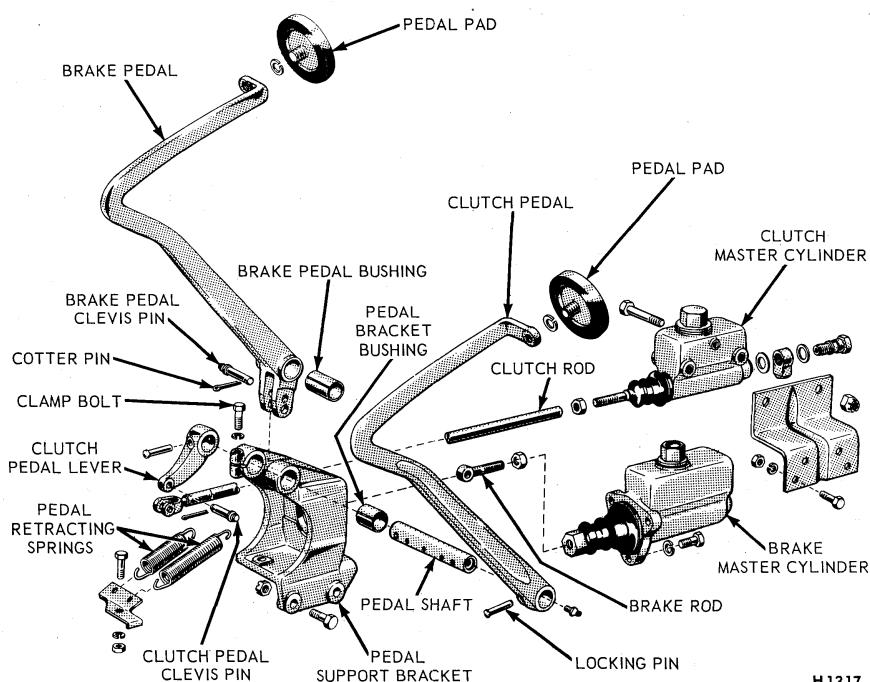

FIG. 20—P-Series Brake Pedal and Related Parts Except P-100
2. Remove the pedal pads from the clutch and brake pedal (Fig. 20).